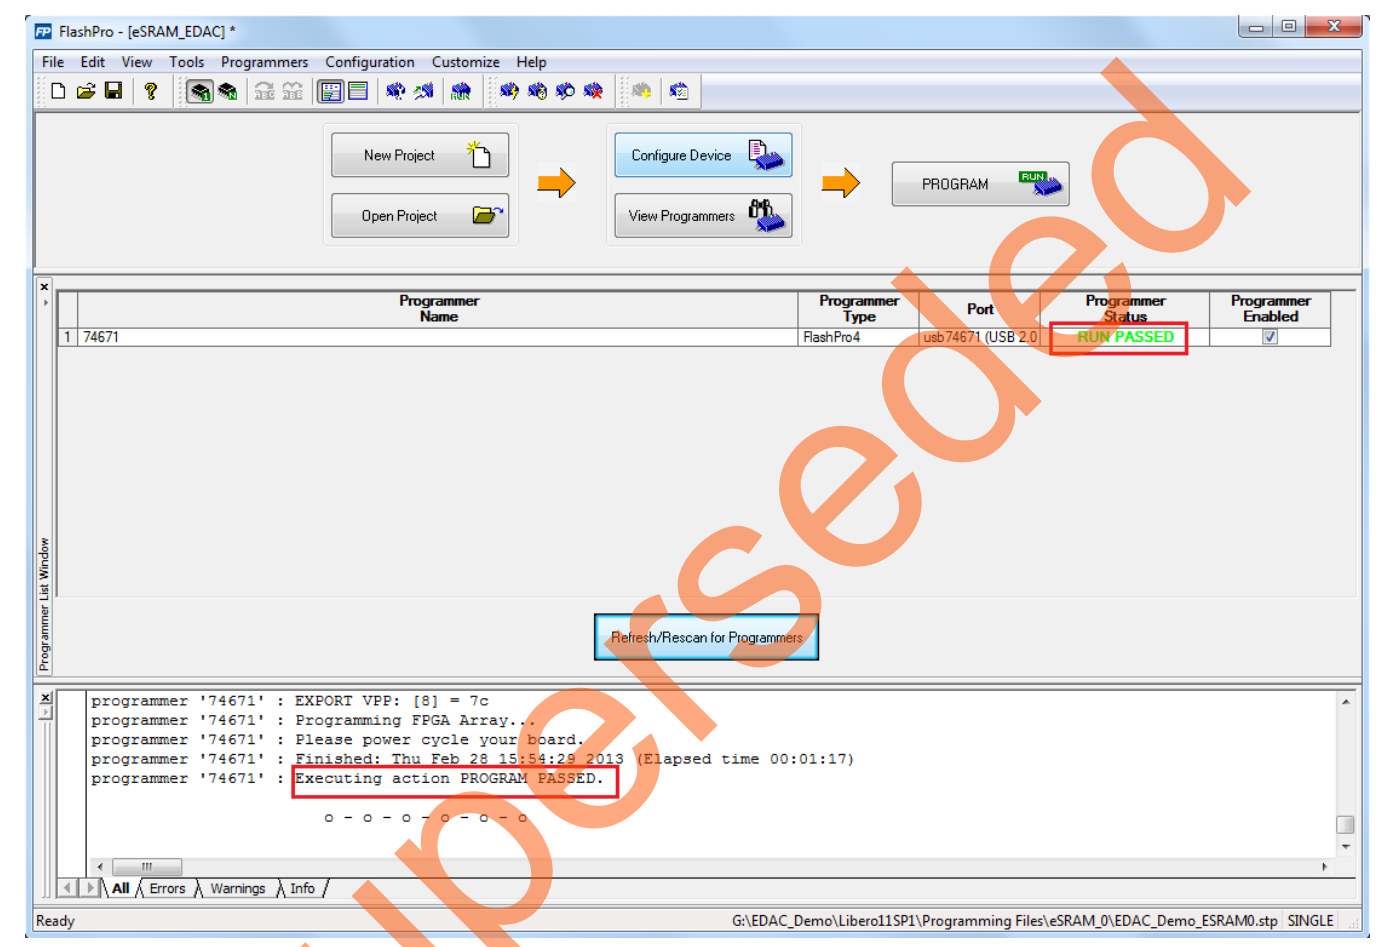

Figure 7. FlashPro Programming Window
2. Program the SmartFusion2 device with the programming file provided in the design files (`\ProgrammingFiles\eSRAM_0\EDAC_Demo_eSRAM0.stp` or `\ProgrammingFiles\eSRAM_1\EDAC_Demo_eSRAM1.stp`) using FlashPro design software, as shown in Figure 7.